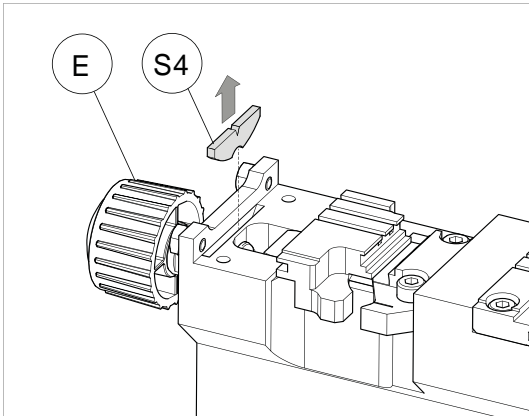
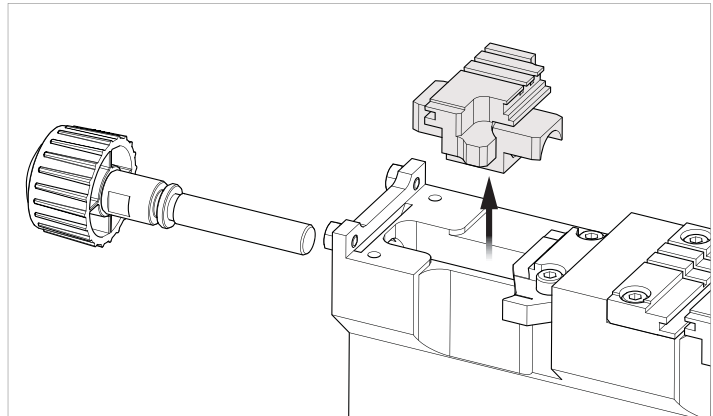

Fig. 86
Fig. 87
- 2) Remove the knob (E) stop plate (S4) (Fig. 86).
- 3) Fully unscrew the knob (E).
- 4) Remove the mobile jaw (Fig. 87) and clean the clamp.